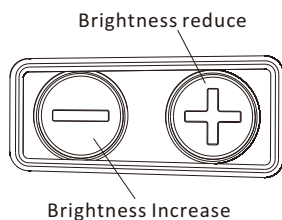

Fig 4
- 1. Switch on (see Fig4) :** Press and release either brightness button ("+" or "-") to turn on the sight.